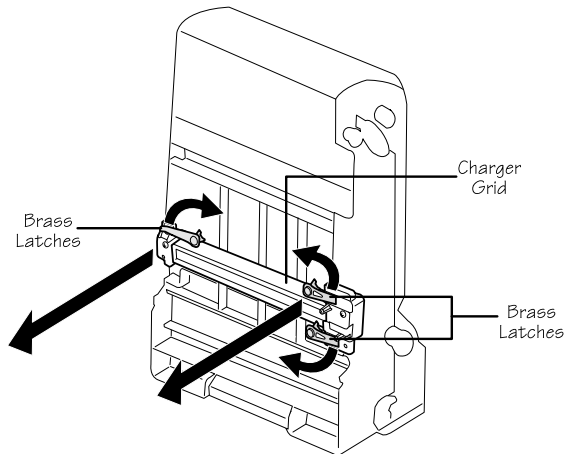

Fig. 6.12 *Open Charger Unit Brass Latches*
5. Locate the three brass-colored latches, which hold the charger unit in place. Then, swing each latch to the side to free the charger unit (fig. 6.12).
6. Grasp the green handle on the end of the charger unit and lift the unit out of the cartridge (fig. 6.12). Then, place the OPC belt cartridge in its protective bag or a dark area to protect it from light and set it aside until you are ready to reinstall it.